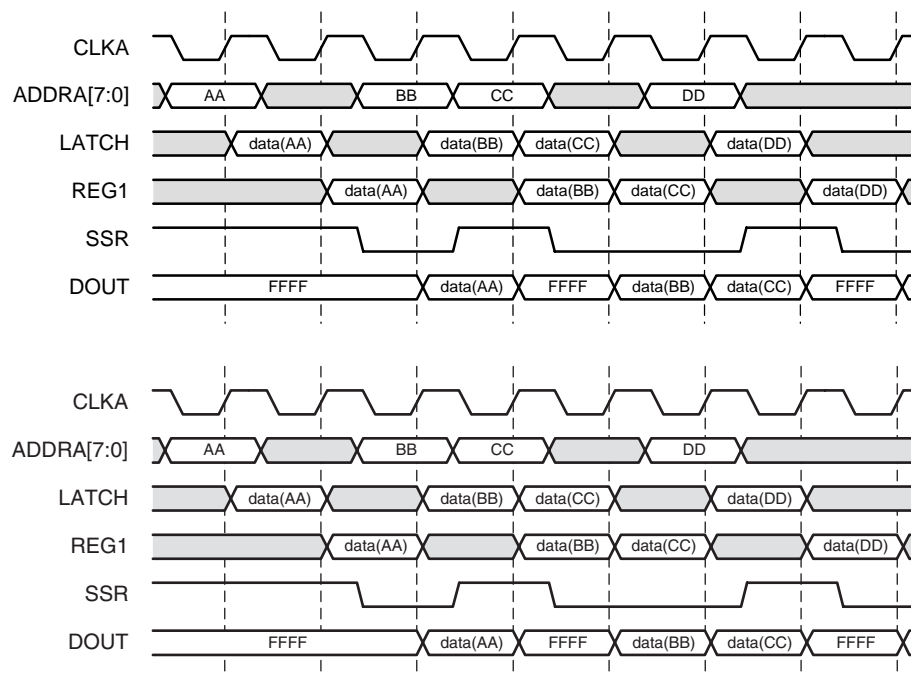
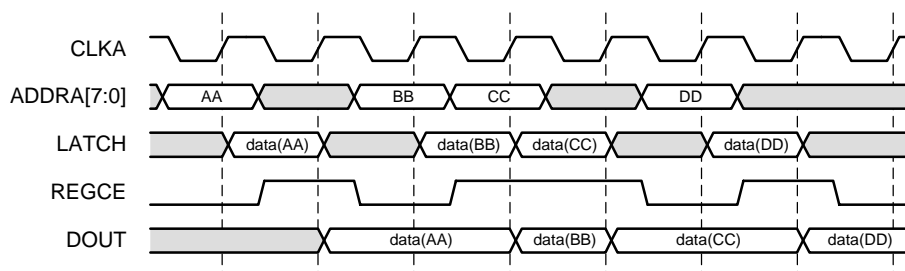

Figure 19: Flow Control Using SSR
Figure 20: Flow Control Using REGCE
The combination of the enable (EN), reset (SSR), and register enable (REGCE) pins allow a wide range of data flows in the output stage. Figure 19 and Figure 20 are examples on how this can be accomplished. Keep in mind that the SSR and REGCE pins apply only to the last register stage.
Figure 19 depicts how SSR can be used to control the data output to allow only intended data through. Assume that both output registers are used for port A, the port A reset value is 0xFFFF, and that EN and REGCE are always asserted. The data on the block RAM memory latch is labeled LATCH, while the output of the block RAM embedded register is labeled REG1. The output of the last register is the output of the core, DOUT.
Figure 20 depicts how REGCE can be used to latch the data output to allow only intended data through. Assume that only the memory primitive registers are used for port A, and that EN is always asserted and SSR is always deasserted. The data on the block RAM memory latch is labeled latch, while the output of the last register, the block RAM embedded register, is the core output, DOUT.